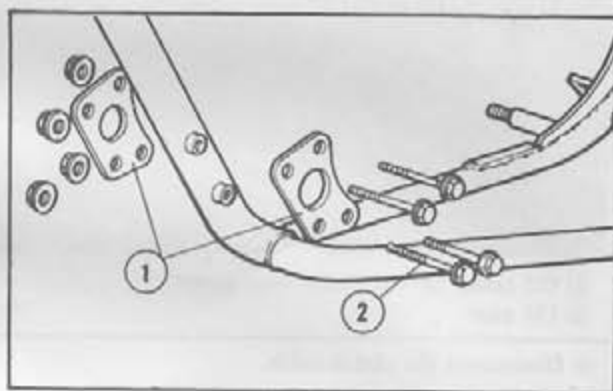

Fig. 4-1 ① Front engine hanger plate
1. Install the front engine hanger plate in the direction shown in Fig. 4-1. Secure the skid plate to the front lower side of the plate.